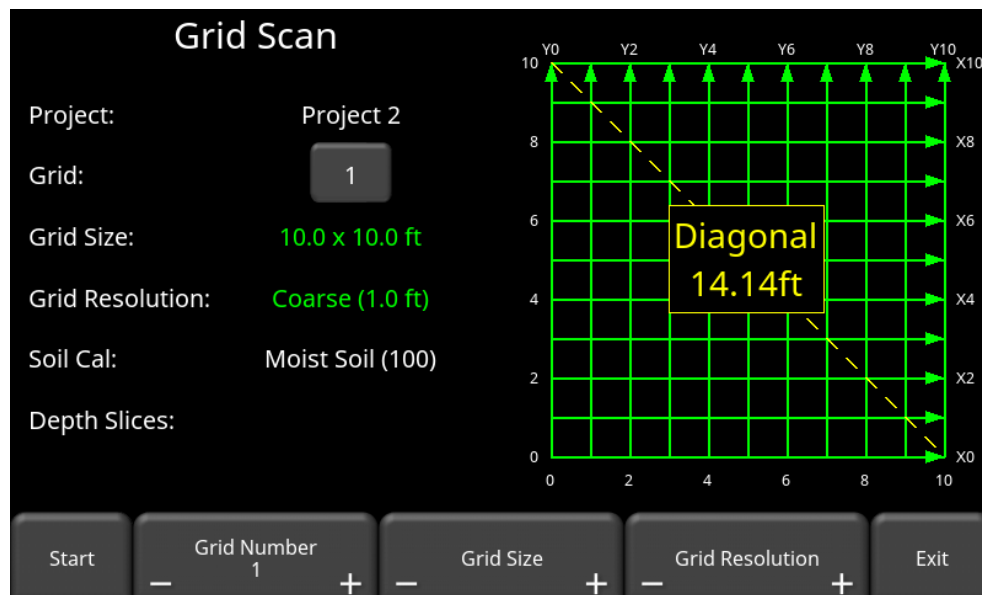
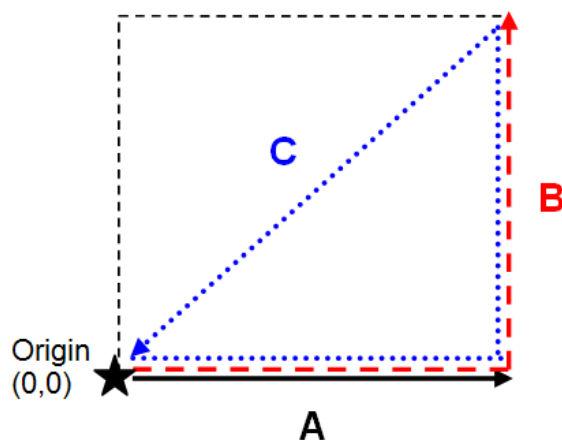

Figure 7-1: Grid Scan setup
Figure 7-6: Forming a right-angle triangle
The screen in Figure 7-1 will allow you to set parameters of the grid, before data acquisition begins.
Step 2 – Layout the Grid – for maximum accuracy, it's very important to establish a right-angle triangle (Figure 7-6). The easiest way is to use a single tape measure and refer to the diagram below. Start at the origin, walk out the desired distance for x-axis (A) and mark that point. Then then turn 90 degrees and walk out the desired distance for the y-axis (B) and mark that point. Determine the hypotenuse side (C) from the screen (Figure 7-1), then close in the triangle (C - hypotenuse side) back to the origin, making sure you meet the origin at the distance for C. If not, move that last point in tandem with the origin, such that both sides of the tape measure are taut.